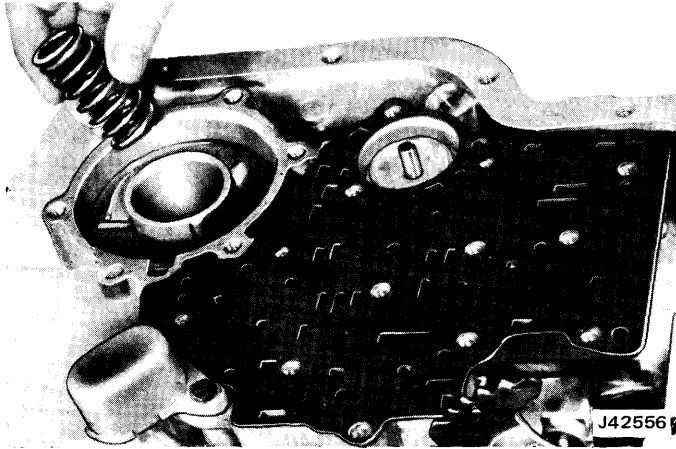
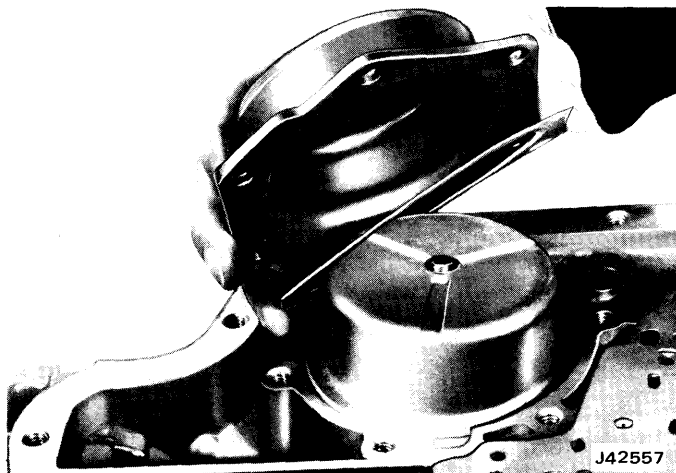

Fig. 7-139 Installing Rear Accumulator Spring
Fig. 7-140 Installing Rear Servo Cover and Gasket
(1) Install proper length band-apply pin. Refer to Selection of Rear Band Apply Pin.
(2) Install rear accumulator spring (fig. 7-139).
(3) Lubricate rear servo assembly with transmission fluid and install servo assembly.
(4) Install rear servo gasket and cover (fig. 7-140). Install cover attaching bolts and tighten bolts to 18 foot-pounds torque.